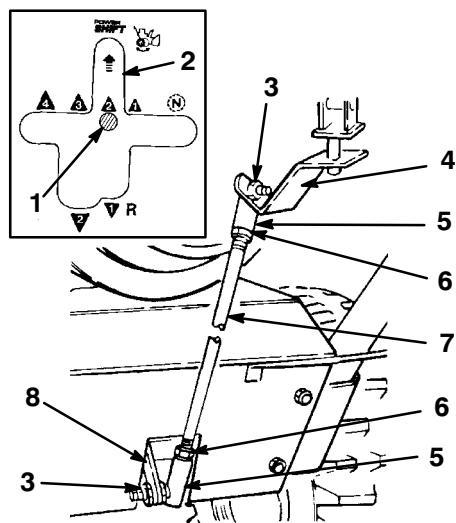

Figure 6
1. Insert the upper ball joint stud through the front of the shift bracket and secure it with a locknut (Fig. 6).
2. Insert the lower ball joint stud through the right side of the transmission lever and secure it with a locknut (Fig. 6).
Note: If the gear shift lever does not align with the Power Shift slot in the control panel (see inset in Fig. 6), adjust the shift rod length as follows:
4. Disconnect the ball joint from the transmission lever and loosen the jam nut (Fig. 6).
5. Rotate the ball joint up or down until the gear shift lever aligns with the Power Shift slot (Fig. 6).
6. Install the ball joint to the transmission lever and tighten the jam nut (Fig. 6).